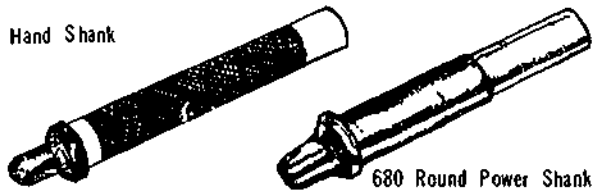

Figure 2-118. Flaring and Belling Tools
**Flaring Tube Ends** Flaring or beading of exposed tube ends is produced primarily by using a tube expander with beading rolls incorporated into the expander (Figure 2-112). Alternative flaring and beading tools (Figure 2-118) are powered by a chipped hammer.